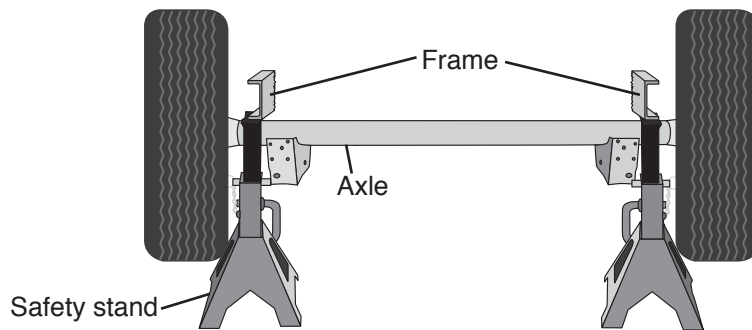

fig. 1
1. Jack up the rear of the vehicle or raise on a hoist. Support the frame with safety stands so that the wheels hang (fig. 1).